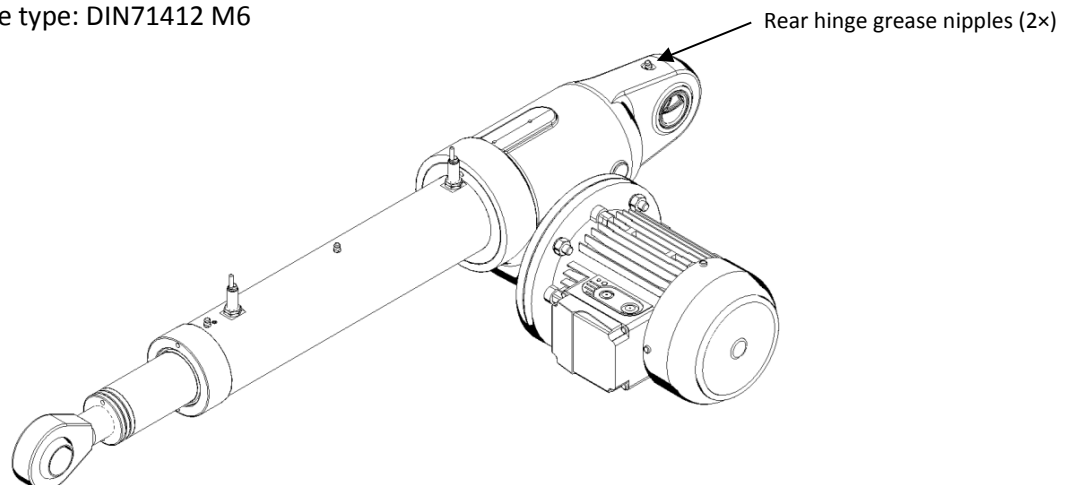

Figure 9.4 – Rear hinge grease nipples
- Relube the rear hinge using proper grease nipples (n°2 grease nipples, as shown on Fig. 9.4).